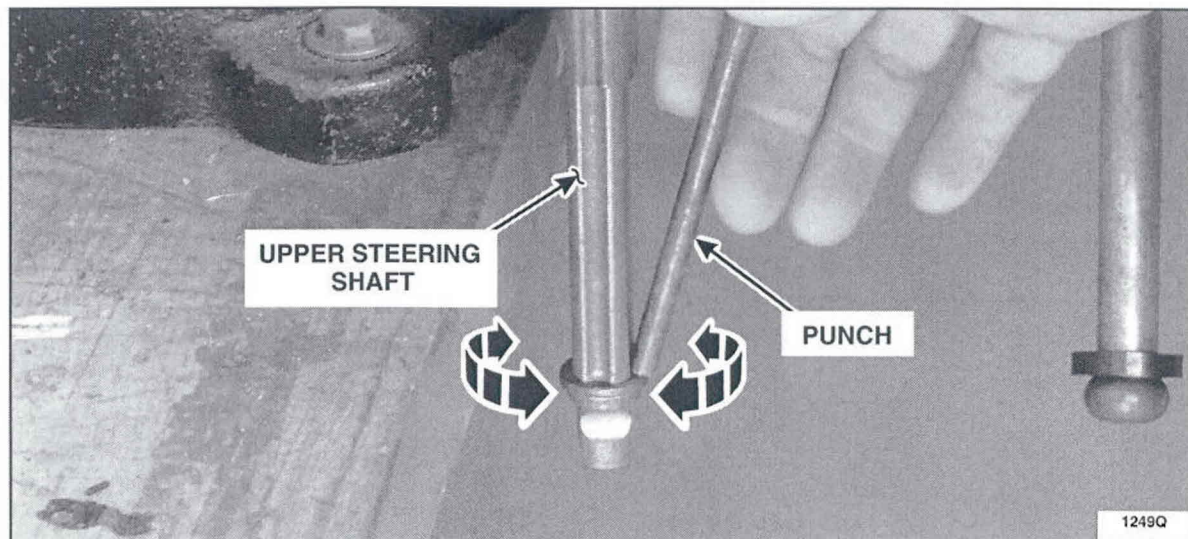

FIGURE 6
7. Using a suitable punch and 16 ounce hammer, lightly tap around the steering shaft lip to evenly extend the shaft to 137-145 mm (5 3/8 - 5 3/4 in). See Figures 6 and 7.